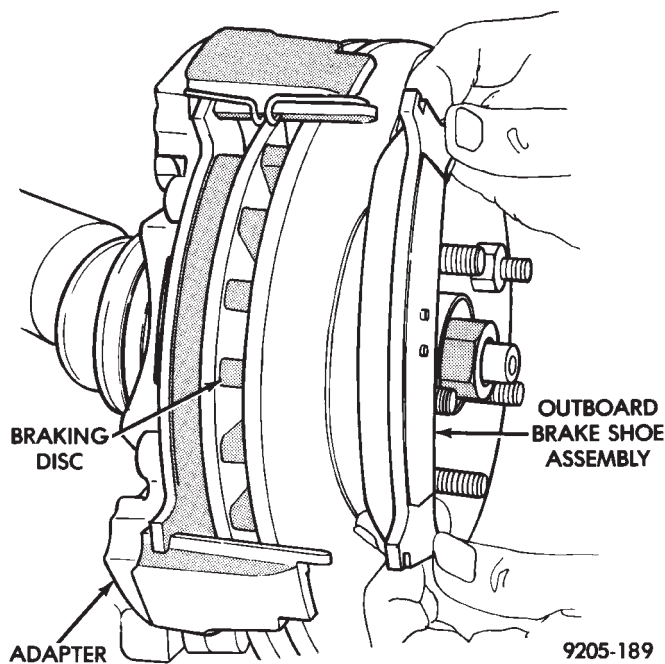

Fig. 5 Removing and Installing Outboard Shoe Assembly
(6) Slide the new outboard brake shoe assembly on the adapter abutment, (Fig. 5).